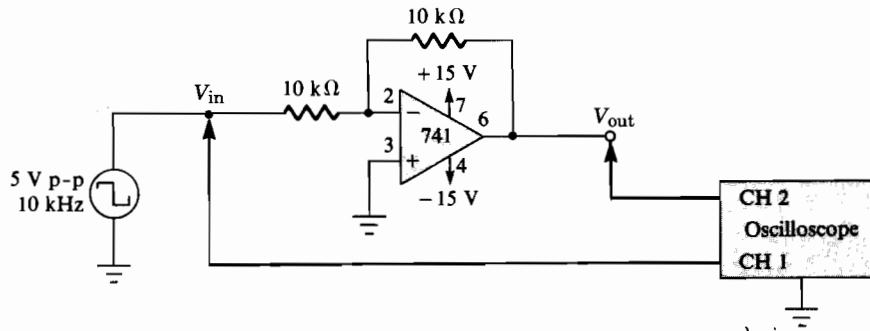

FIGURE 30-1 Schematic diagram of circuit.
1. Wire the circuit shown in the schematic diagram of Figure 30-1, and set your oscilloscope for the following approximate settings: